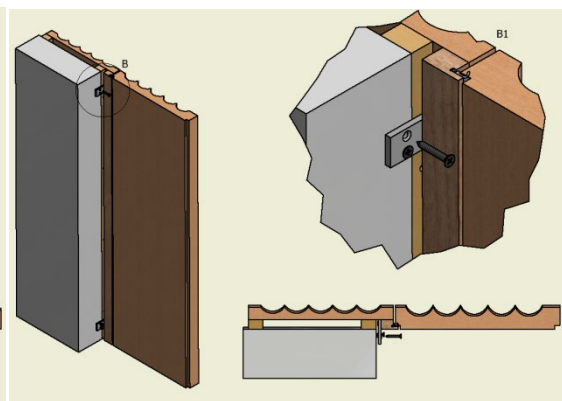

Fig. 7
3. Fix the internal cover -jamb , where provided, using the pins located in the appropriate holes (fig. 7)